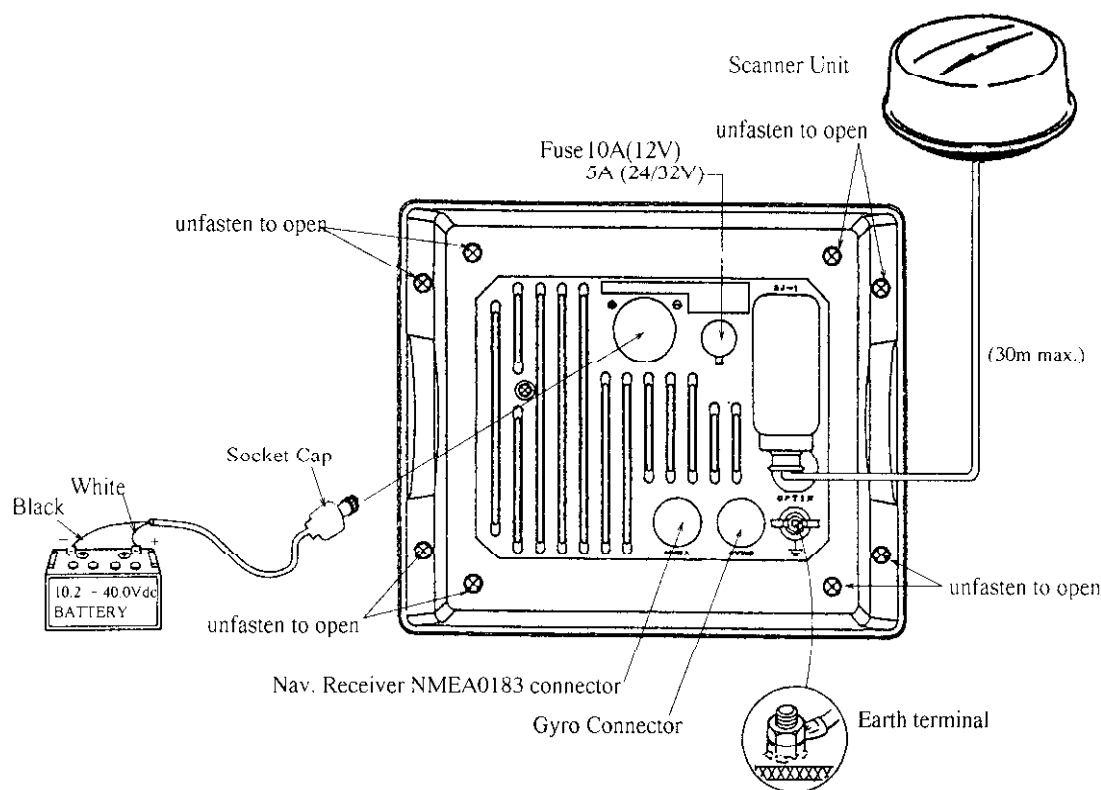

Figure 6-13 Detailed Wiring Diagram
2. Open the display unit cover by unfastening eight screws. See Figure 6-13.